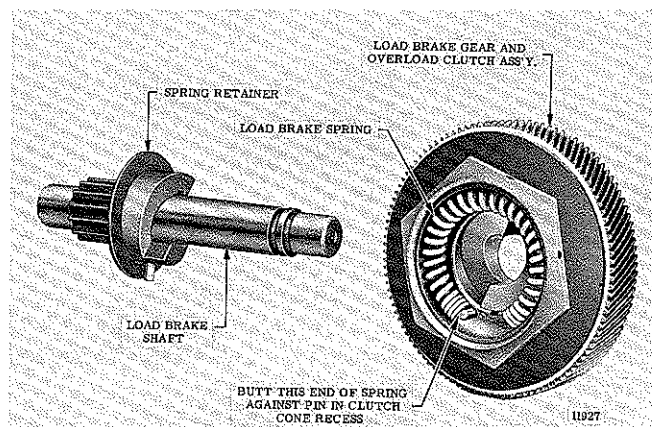

Figure 7-27. Load Brake Gear and Overload Clutch Assembly Removed from Load Brake Shaft Showing Brake Spring Installed in Clutch Cone
(3) Remove load brake gear and overload clutch assembly from output pinion shaft. Pull the spring from its recess in clutch cone (fig. 7-27) but do not further disassemble gear and clutch assembly. see "NOTE" below.
NOTE: Disassembly of the load brake gear and overload clutch assembly (fig. 7-27) is not recommended. Clutch pressure is preset by the factory at assembly to provide the correct torque to allow the clutch to refuse loads within a specified range (110% of rated load to 180% rated load). It is suggested whenever there is a need to repair or readjust the gear and clutch assembly that it be sent to an authorized **BUDGIT** Hoist Repair Station where adequate tools, fixtures and appropriate test equipment is available.
(1) Before assembly, all parts should be cleaned and inspected to determine their serviceability. Replace parts that are excessively worn or damaged.
(2) Reassemble load brake parts following a reverse procedure of the disassembly steps listed above, observing the assembly steps (3) thru (6) below.
(3) Before installing spring in its recess in center of clutch cone (fig. 7-27) apply a good grade of ball bearing grease to inside of recess. Spring must be positioned exactly as illustrated, butted against pin.